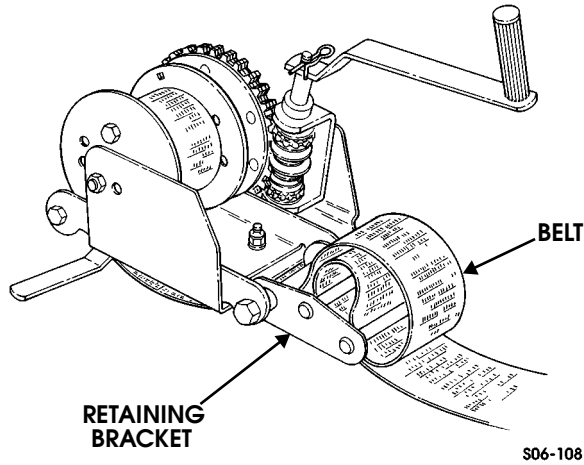

Figure 6-31: Runflat Compressor Belt Installation
2. Loop free end of belt around retaining bracket (Figure 6-31).